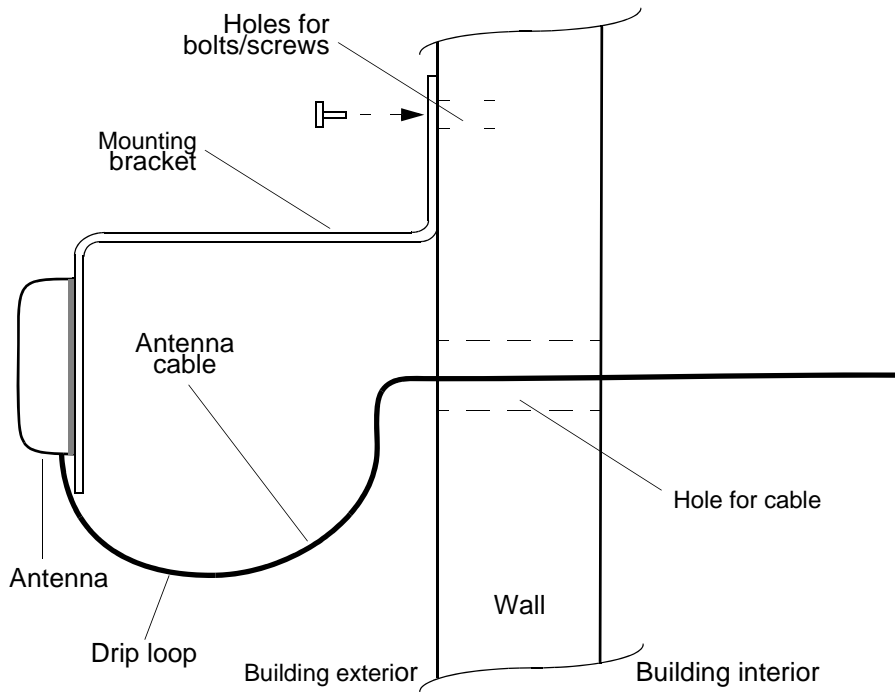

Figure 3-10. Wall Antenna Mounting
7.	Push the SMA connector of the antenna cable through the hole drilled in the wall in Step 3 . Be sure the antenna cable forms a drip loop between the antenna and the cable entry into the building (Figure 3-10).